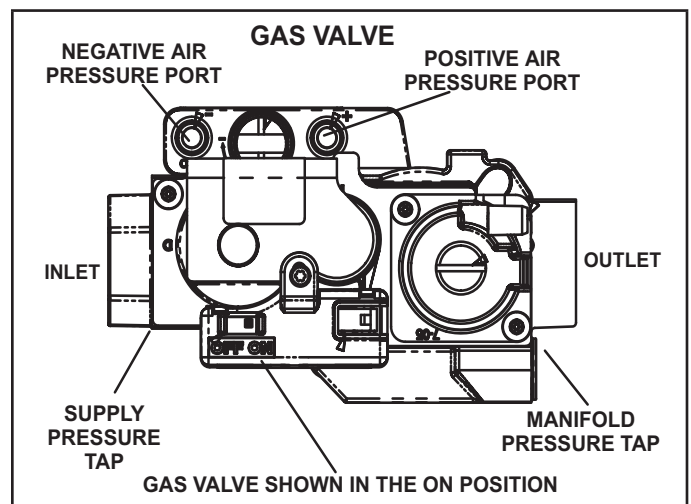

FIGURE 47
Gas Valve Operation (FIGURE 47)
- 6 - Move the gas valve switch to the OFF position. See FIGURE 47.
- 8 - Move gas valve switch to the ON position. See FIGURE 47. Do not force.
When testing supply gas pressure, connect test gauge to supply pressure tap on the gas valve. See FIGURE 47. Check gas line pressure with unit firing at maximum rate. Low pressure may result in erratic operation or underfire. High pressure can result in permanent damage to gas valve or overfire. See TABLE 29 for operating pressure at unit gas connection (line).